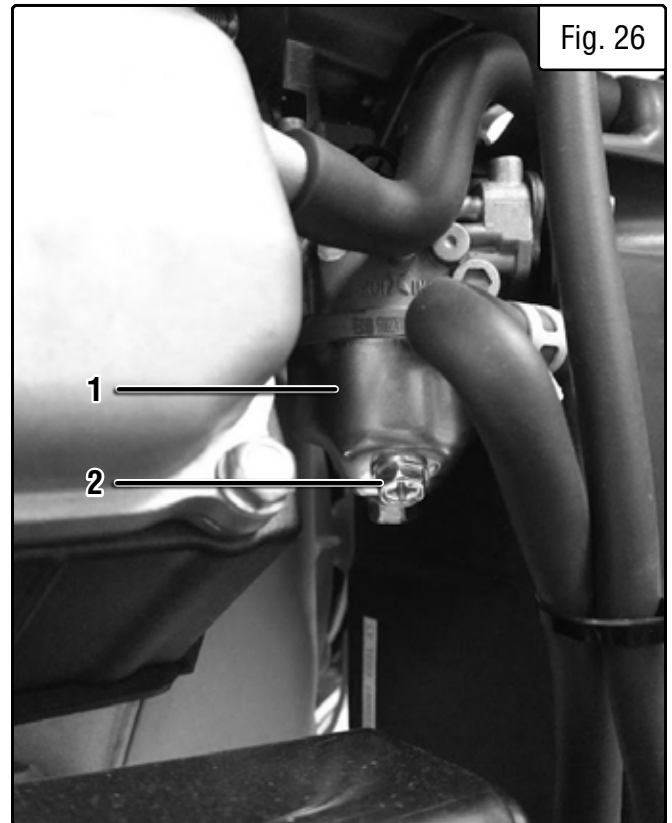

Fig. 26
1. Locate the carburetor (Fig. 26 - 1). It can be accessed on the back of the generator, right beside the air filter.
4. Open up the carburetor drain screw (Fig. 26 - 2) with a Phillips screwdriver. Fuel will start draining from the carburetor and fuel tank through the funnel.